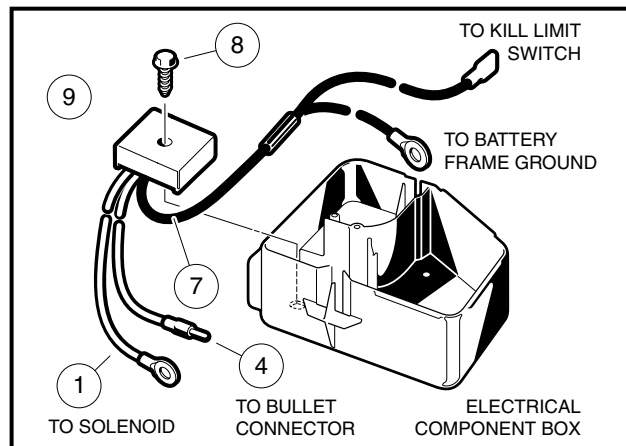

Figure 12b-16 Voltage Regulator
6. Disconnect the voltage regulator red wire (1) at the large post on the solenoid, the yellow wire (4) at the bullet connector, and the black wire (7) from the normally open (NO) terminal of the kill limit switch and at the battery frame ground (**Figure 12b-16, Page 12b-14**).
7. Remove the voltage regulator mounting screw (8) and remove the voltage regulator (9).
1. Position the voltage regulator (9) in the electrical component box and install the mounting screw (8) (Figure 12b-16, Page 12b-14). Tighten screw to 23 in-lb (2.6 N·m).
2. Connect the voltage regulator red wire (1) at the large post on the solenoid, the yellow wire (4) at the bullet connector, and the black wire (7) at the battery frame ground and the normally open (NO) terminal of the kill limit switch (Figure 12b-16, Page 12b-14).